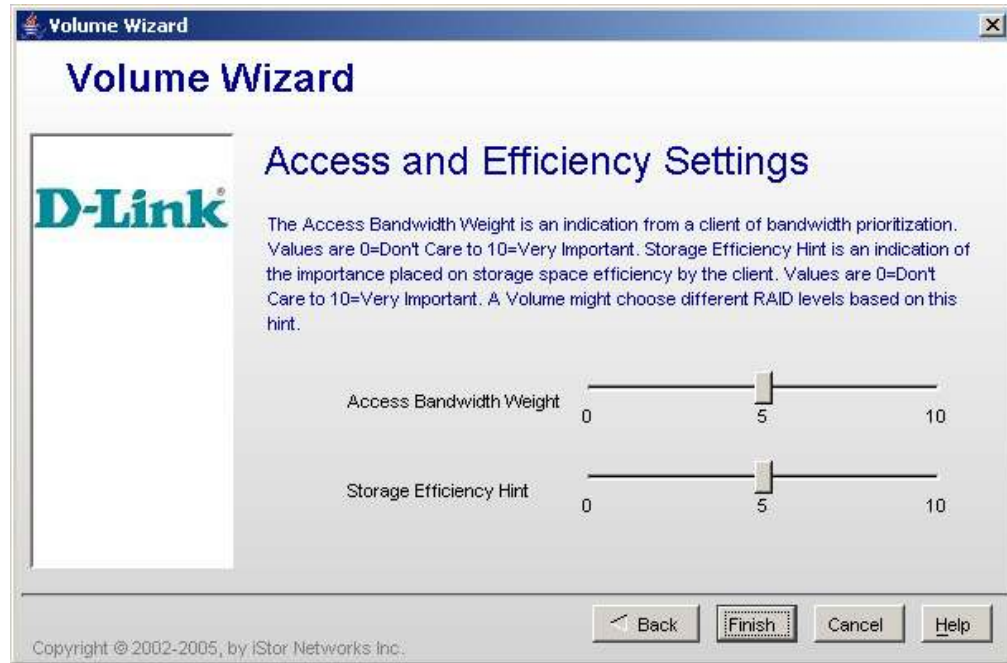

Figure 5-12 Create Volume Wizard Screen – Access and Efficiency Settings Screen
- Complete the fields in the screen (see Table 5-3), then click the **Next** button. The Access and Efficiency Settings screen appears (see Figure 5-12).